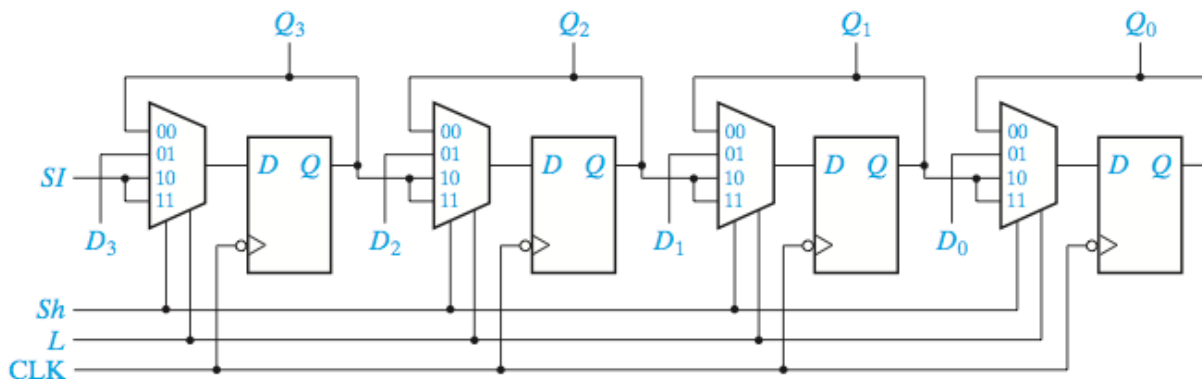

Figure 1: Parallel-in parallel-put right-shift register (Figure 12-10 from textbook).
2.2 Redesign the right-shift register circuit shown in Figure 1 using four D flip-flops with clock enable (CE) input, four 2-to-1 MUXes, and one single OR gate. The final design should have the same parallel-in parallel-out and serial-in serial-out functionality, and the same combinations for Sh and L should perform the same operations (keep state, load, and right shift) according to Figure 2. Write at least 1 complete sentence describing what you did and why it works.
2.3 Design a left-shift register similar to that of Figure 1. Your left-shift register should shift left if $Sh = 1$, load if $Sh = 0$ and $L = 1$, and keep its state if $Sh = L = 0$.